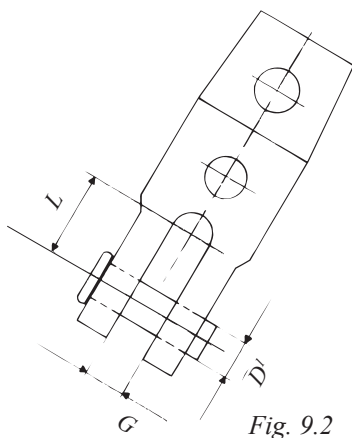

Fig. 9.2
1. The forestay is fitted with a stout torsion-resistant lower toggle (see fig. 9.2). This is attached to the stem-head fitting. The toggle can be fitted either athwartships or fore-and-aft.